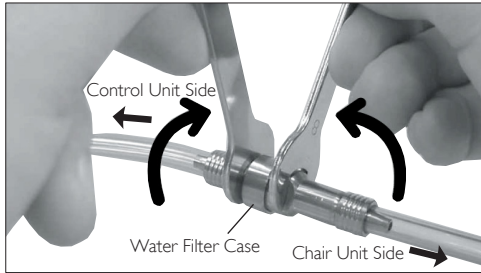

Fig.21
- 2) Mount two Spanner Wrenches (5x8) and turn. **(Fig.21)**